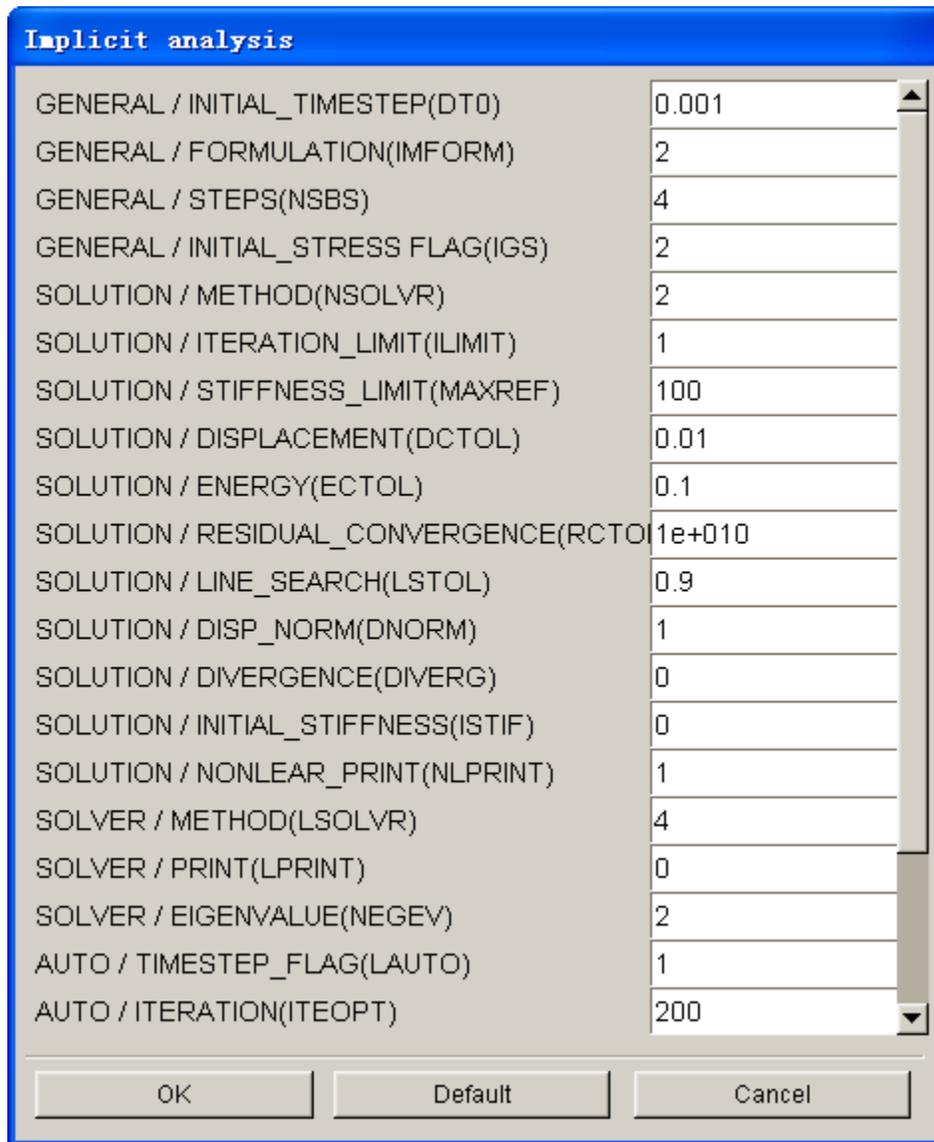

Figure 8.2.117 Advanced parameter for Implicit Analysis
**ADVANCED...:** Set advanced parameter of implicit analysis. See Figure 8.2.117 for the list of parameters.